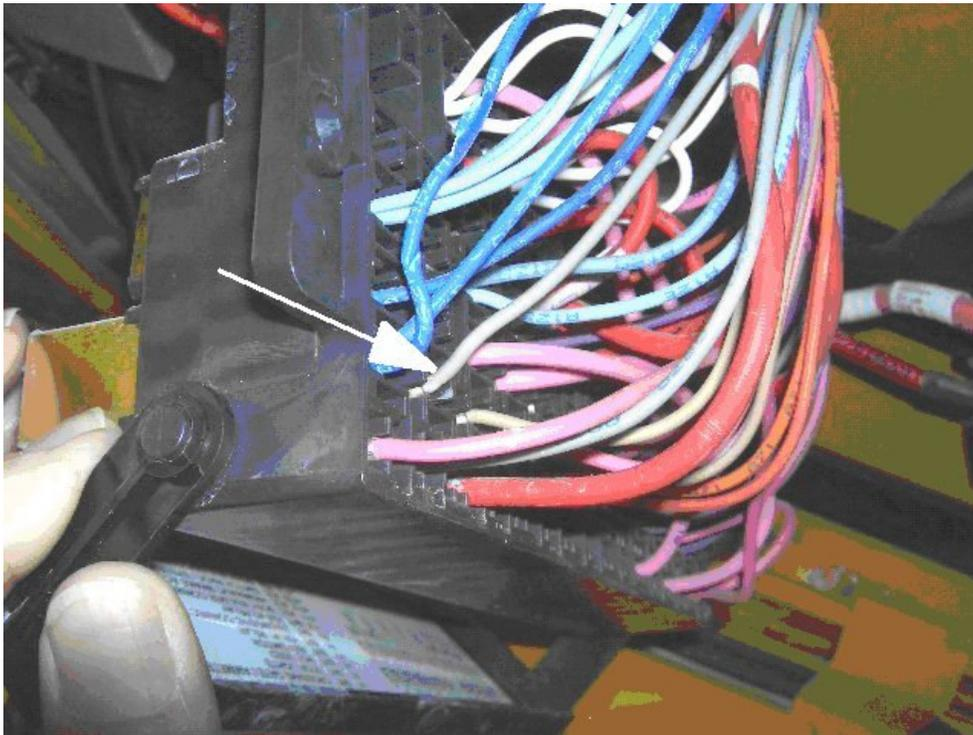

**Figure 19 - Chassis Fuse Block**
65. In the chassis fuse block (left side of panel) verify that there is a 5amp fuse in location F12 and that location F25 is empty as shown in Figure 19.